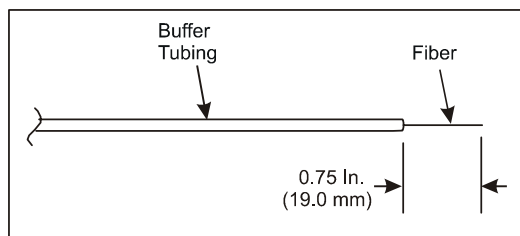

**Figure 3. Install Buffer Support on Buffer Tubing**
3. **PLACE BUFFER SUPPORT ONTO FIBER** Slip the buffer support onto the buffer tube covering the fiber (Figure 3).